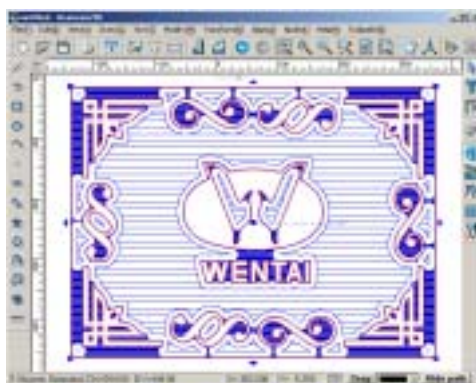

Fig. 12-55
10. Select two end mill tools with diameter of 3.175 and 22 respectively, choose machining depth of 3mm, overlap ratio of 60%, and choose anticlockwise. The result is shown in Fig. 12-55.